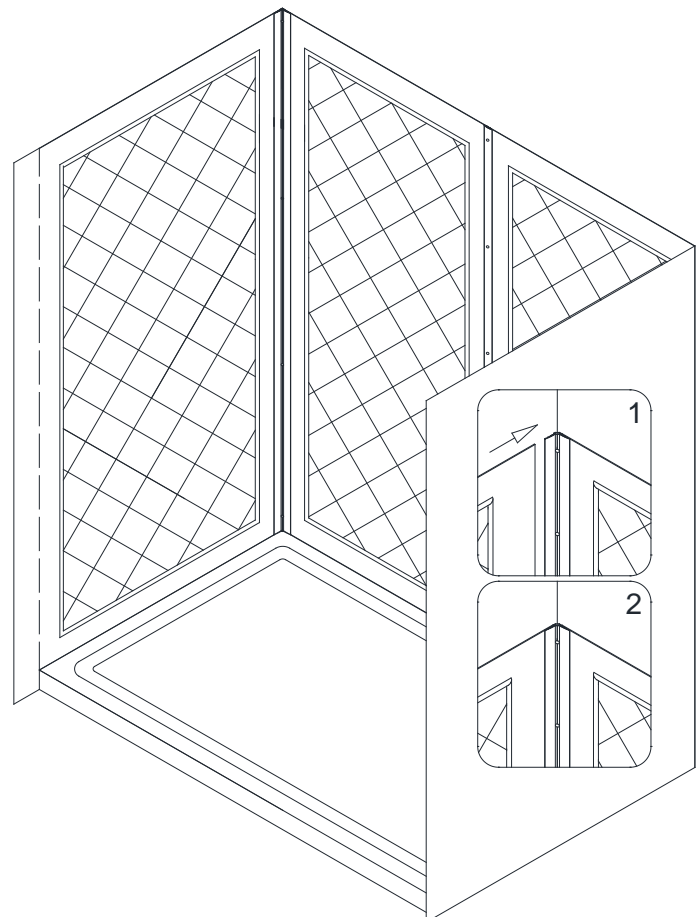

Fig. 28
See Fig. 28 for details.
28. Mark the location for the **Shelf brackets (04)** according to the measurements in Fig. 28 and Fig. 29.1.